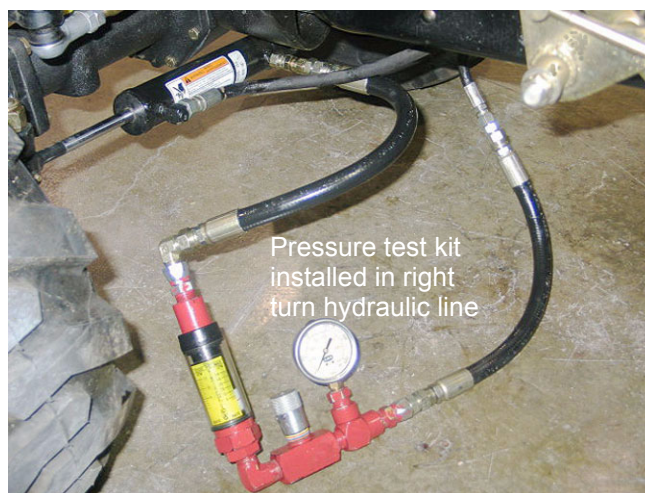

Figure 7.12
- 7.12. Connect the test kit so that the pressure gauge side (as opposed to the flow meter side) is near the source (steering unit). See Figure 7.12.